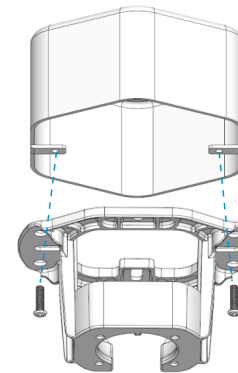

Fig. 6.1
Install the mounting bracket to the ceiling box, as shown in Fig. 6.1 below. Rotate the mounting bracket in different directions so that the bracket mounting holes match the screw holes of the ceiling box.
**Note:** This mounting bracket is a standard cable box. If the mounting bracket is installed at the outlet box, it should be installed on the outlet box with two screws matching the outlet box itself, as shown in Fig. 6.1.